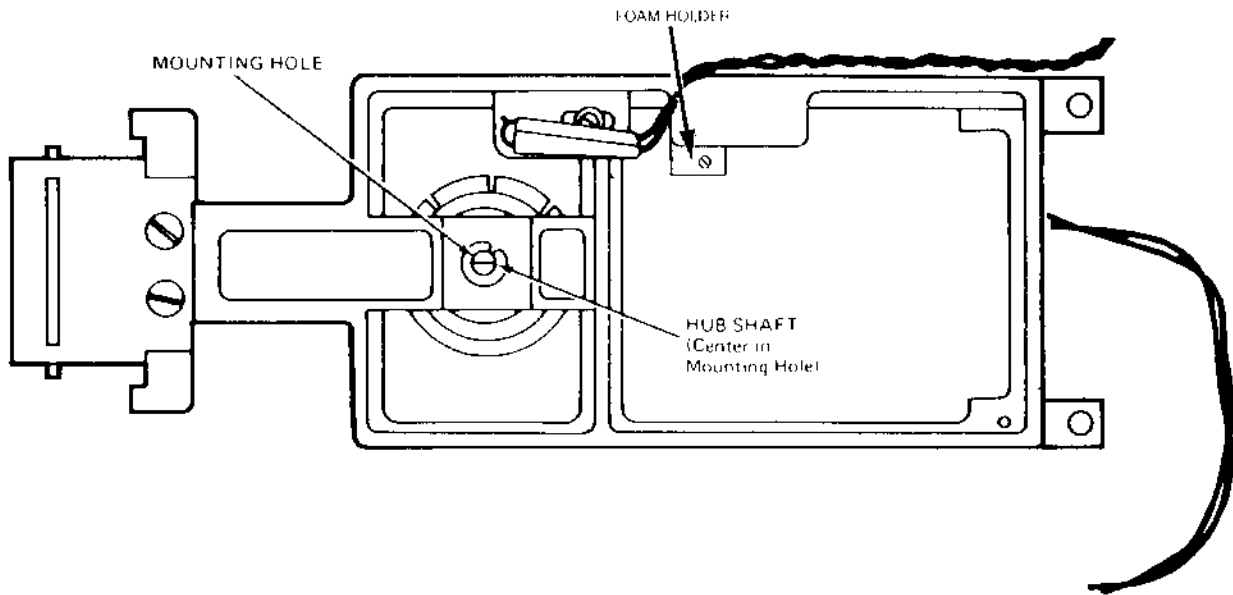

FIGURE 27. HUB FRAME ADJUSTMENT
- c. Position the hub frame until the hub shaft is centered in its mounting hole in the hub frame Reference figure 27. Now tighten the mounting screws for the hub frame pivot springs.